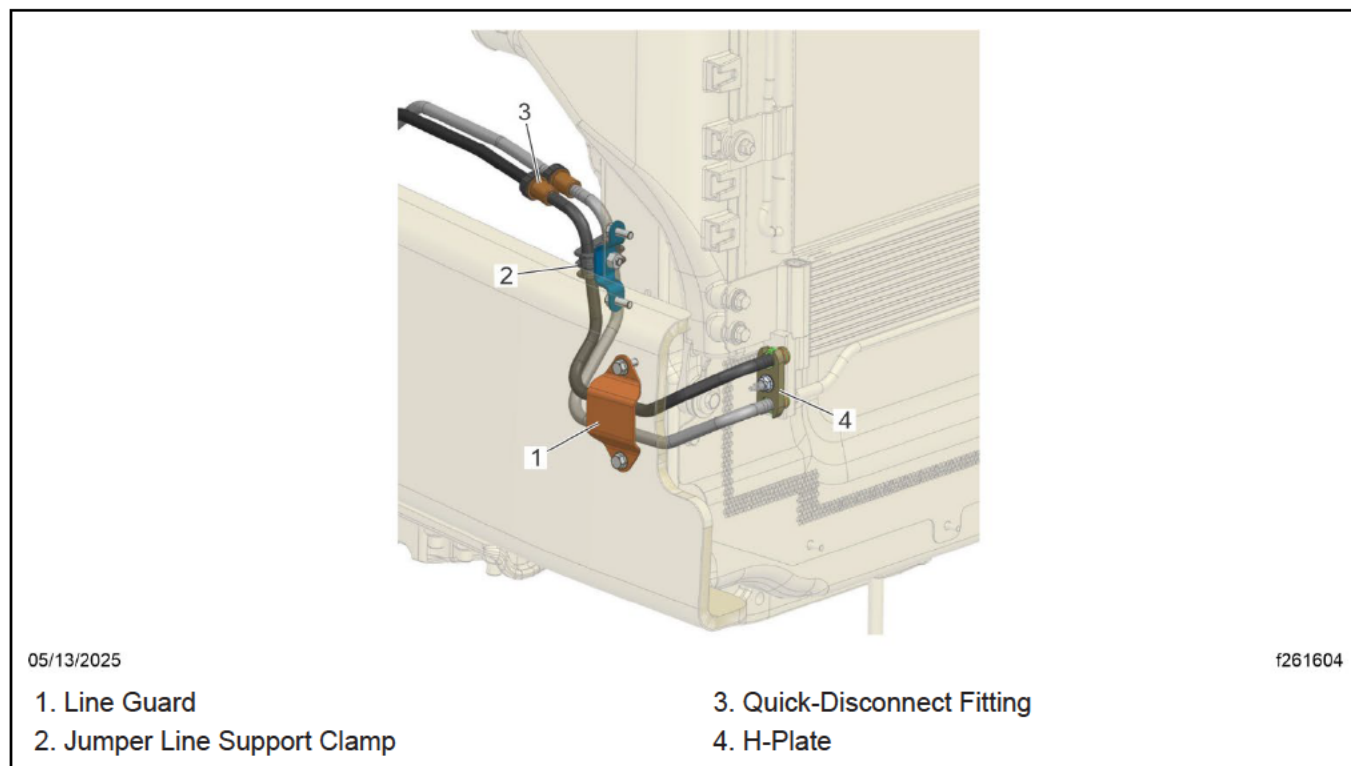
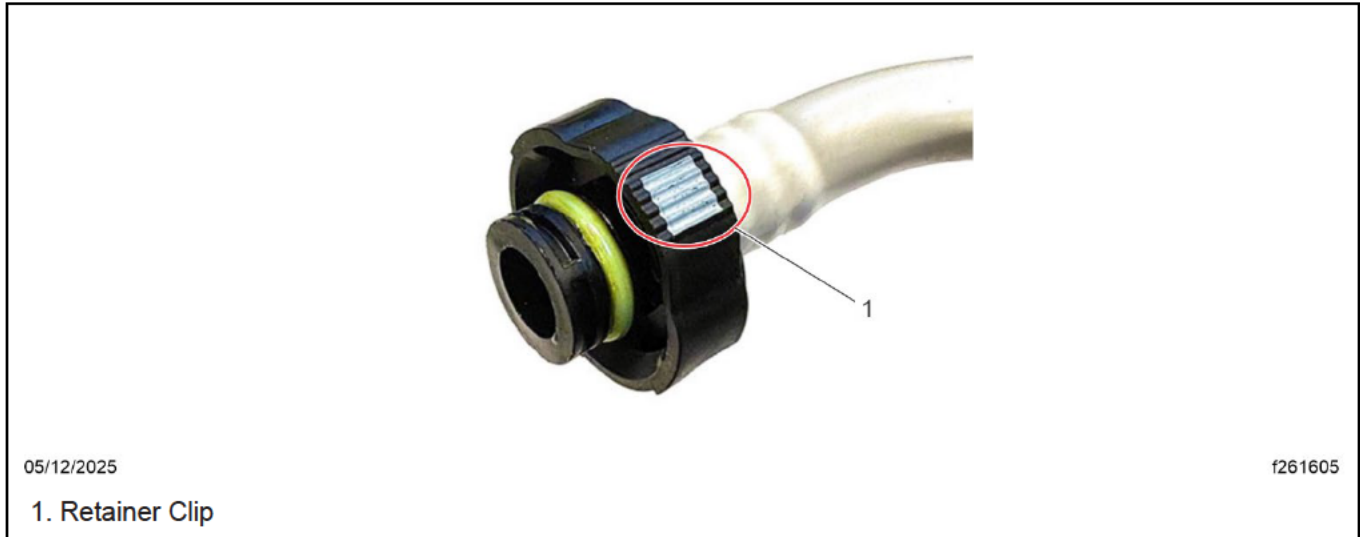

Fig. 2, Cooler Jumper Routing Through the Line Guard Bracket
Fig. 3, Serrated Section for Unlocking the Retainer Clip
9. Remove the top fastener that holds the line guard to the radiator frame, then loosen the bottom fastener enough to extract the top line from the cooler. See Fig. 2.
11. Separate the quick-disconnect fitting, item 3 in Fig. 2, on the rail-mounted line, from the jumper line going to the top cooler port. Press the serrated section of the retaining clip towards the line to unlock it and continue to hold the clip down while removing the jumper from the line. The clip details are shown in Fig. 3.